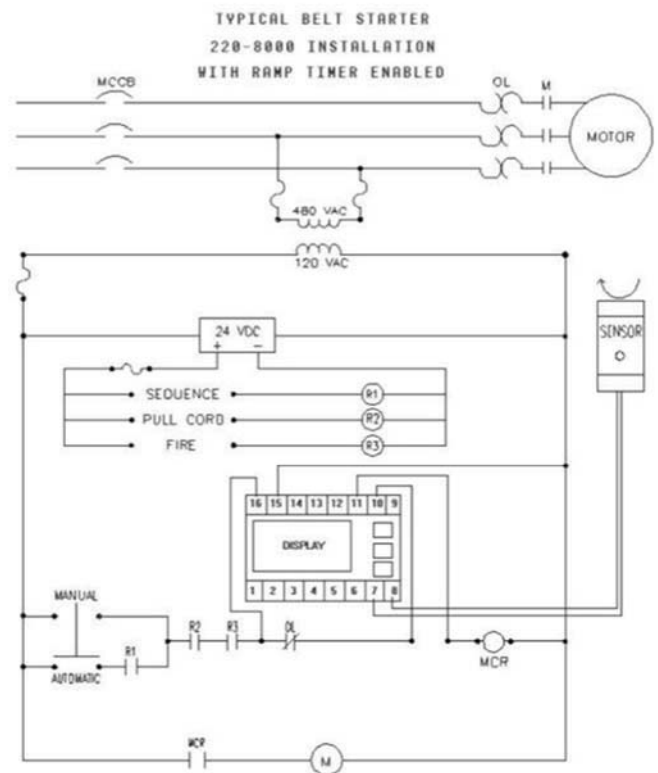

Figure 4.3 Sample Wiring Diagram
4. Figure 4.3 shows a sample wiring diagram of how the Smart Monitor can be wired into your system. If you are familiar with PPI's older Smart Monitor, see Figure 4.4 comparing the wiring diagrams.